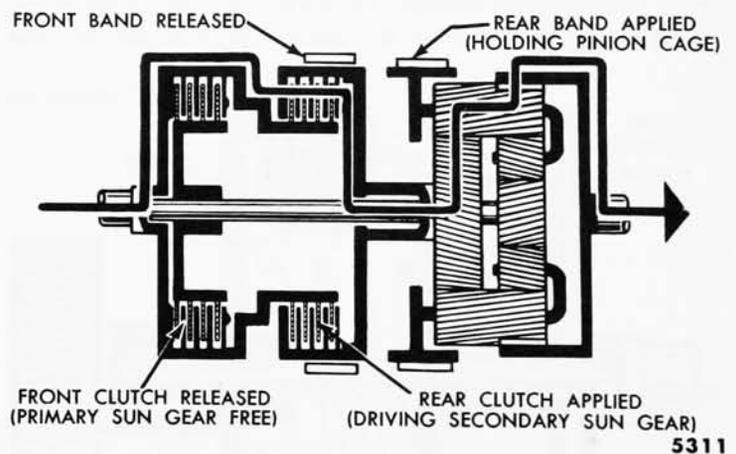

Fig. 13—Power Flow—Reverse Range
(5) **REVERSE RANGE.** Reverse range is accomplished by driving the secondary sun gear and holding the pinion carrier (fig. 13). The secondary pinions drive the internal gear in the reverse direction. The primary sun gear and the primary pinions rotate freely and have no effect on the gear train.